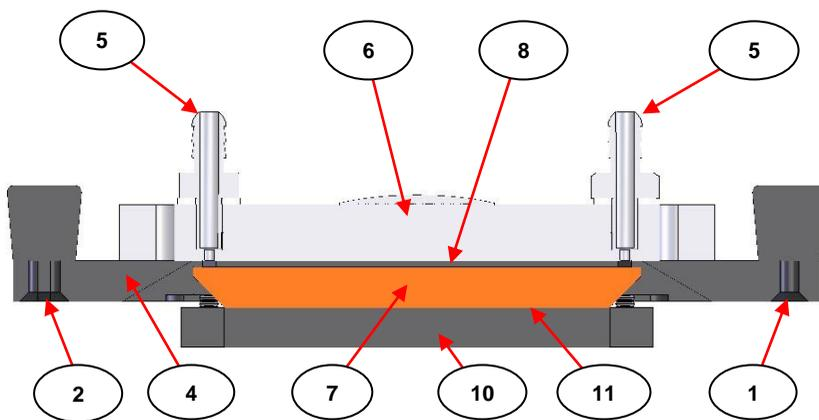

Fig 5. Cross Section Cutaway View Showing Internal Features of the Gateway™ ATR Flow Through Top Plate
Connect the other ends of the clear silicone tubing that has been attached to the Flow Through Top Plate to a liquid sample supply and follow the instructions for operation of a liquid sample pumping system if this is being used to circulate the sample flow. The liquid sample passes through the Flow Through Top Plate across the top surface of the ATR crystal (7) contained within, for 6 ATR reflection measurement events. (See Fig 5. for a cross section cutaway view of the Flow Through Top Plate). There is an Isolast gasket (8) that seals between the ATR crystal (7) top surface and the underside of the top section plate (6) that creates the cavity for sample flow with a volume of 550 microlitres.